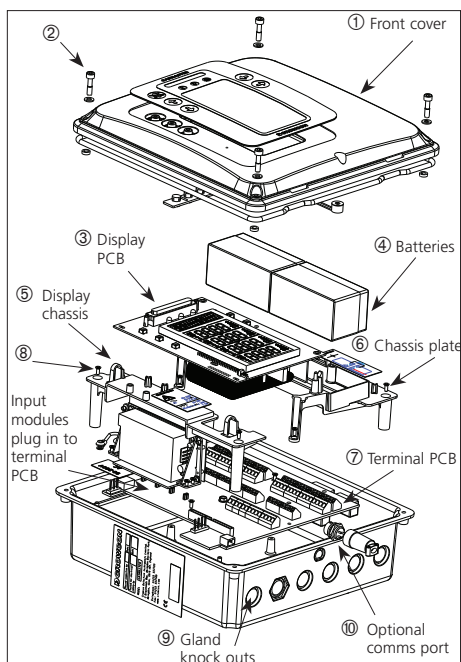
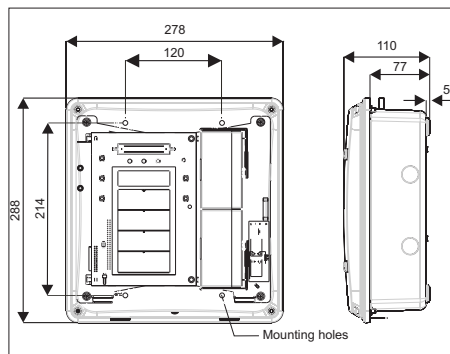

Figure 2.1 Exploded view of Gasmaster
Figure 2.3 Dimensional view of Gasmaster with mounting holes shown
This section describes how to get started with a *Gasmaster 4* or *Gasmaster 1* system that has been pre-configured for the detectors supplied. Figures 2.1, 2.2 and 2.5 show the internal structure of Gasmaster.
Figure 2.1 shows the internal arrangement of a Gasmaster system. The front cover ① is removed by unscrewing the four screws ② and carefully disconnecting the two-pole sounder connector from the display PCB ③. The front cover can either be supported by the case using one of the retaining screws, or removed completely and placed in a safe location. Two separate chassis support the display PCB and batteries which supports the display PCB ③ and ④. The terminal PCB ⑦ contains the input modules, and all of the input and output terminals. The display PCB ③ is connected to the terminal PCB ⑦ via a 50-way ribbon connector, and is hinged on the left side so that it can be moved to provide access to the detector input terminals. Most terminals are accessible once the display PCB is moved and the batteries are removed. If necessary the two chassis can be removed for easier terminal access. In order to remove the display chassis, the display PCB ribbon connector must first be carefully un-plugged. Care should be taken when re-fitting the display
Figure 2.3 provides a dimensional view of Gasmaster. To access the mounting points, first remove the front cover by unscrewing the fixings labelled ② in figure 2.1. Carefully remove the